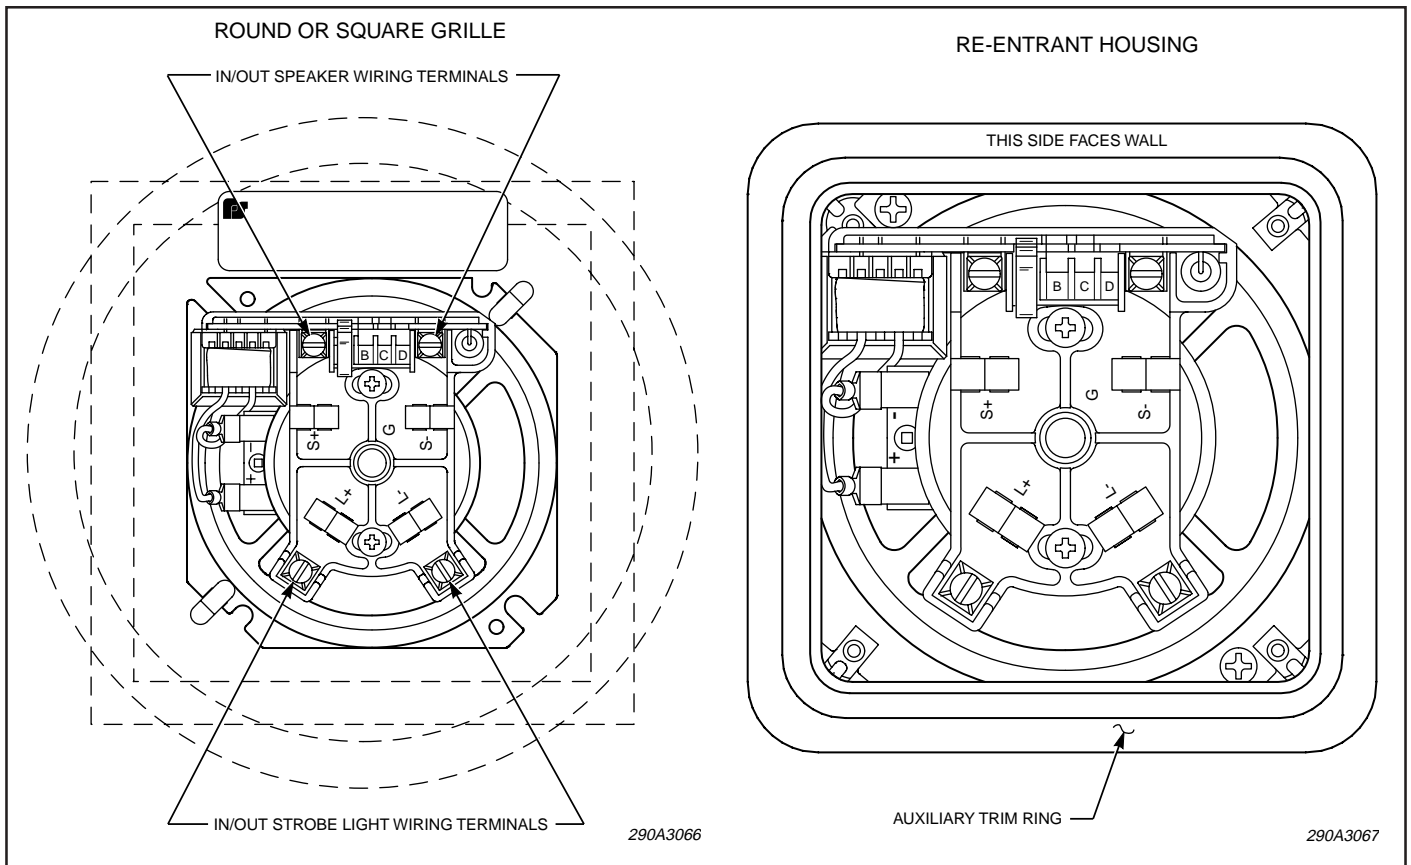
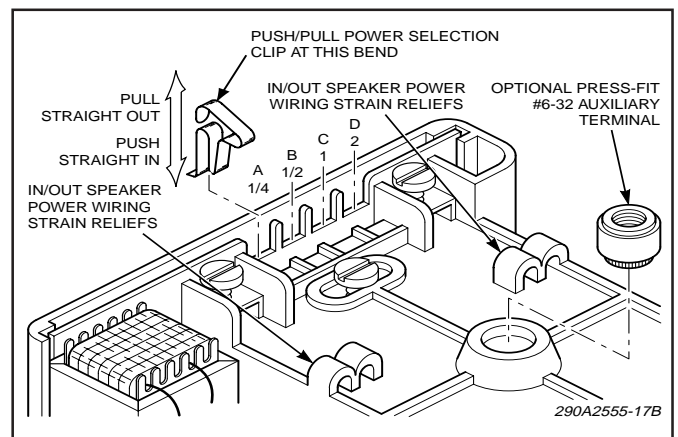
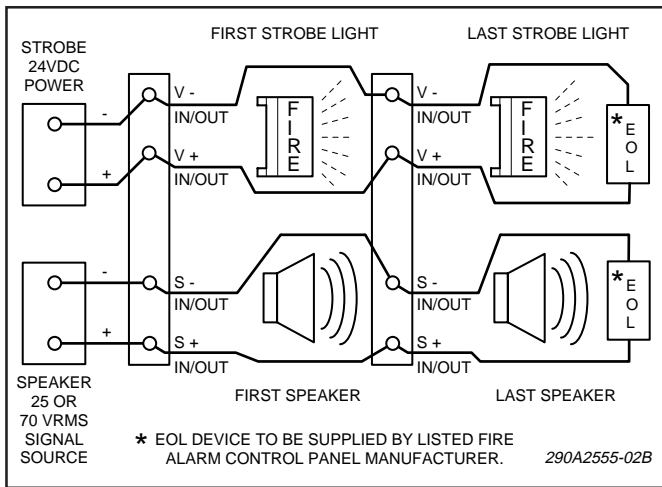

Figure 1. Rear View of Model SPL Grill and Re-Entrant Speakers.
Figure 2. Power Adjustment.
Figure 3. Model SPL Wiring.
The speaker or speaker/strobe model is supplied with wiring terminals and strain reliefs for speaker and optional strobe in/out wiring (see figure 1). An optional auxiliary terminal can be supplied on the speaker.
See figures 1 and 2. Multiple power settings are achieved via an adjustable contact clip. The unit is set at the factory to the 1/4 watt position. To change the power (volume), carefully pull the power selector clip straight out of the slot and push it straight into the desired power setting slot (1/4, 1/2, 1, or 2-watt) as indicated and push down until the clip is fully engaged. See figure 2 for the proper location to pull and push on the clip.
Strip 3/8" of insulation from all wiring leads. Attach the appropriate wires to the corresponding terminals on the back of the speaker as shown in figures 1, 2, and 3. (Speaker wires are connected to terminals "S+" and "S-" and optional strobe wires are connected to terminals "L+" and "L-".) Tighten the screws to ensure that the wires are firmly held in place.
To select the desired wattage, refer to paragraph B. and see figure 2. Using the removable contact clip, set the desired output level (1/4, 1/2, 1, or 2-watt).
An optional #6-32 auxiliary terminal may be added by carefully pressing the knurled terminal into the insulator housing's center raised boss until it is flush with the top of the boss as shown in figure 2.
When the speaker is supplied with a factory installed strobe, two additional terminals are located on the back of the speaker as shown in figure 1. See figures 3 and 4. Connect the appropriate wires to the corresponding strobe terminals. Note that the wires are held in place by the terminal's captivating nut. Tighten the screws and ensure that the wires are firmly held in place.
backbox with or without a surface mount trim plate (TP or TPSF). Re-entrant housings will also fit an FBL backbox with a TP flush mount trim plate. An auxiliary trim ring is also supplied (see figure 1) for mounting arrangements.
1. After installation is complete, be sure to test the system to verify that each speaker and optional strobe light operates satisfactorily. If it is found that the sound level is too low for its location, a higher wattage tap may be selected. Carefully remove the speaker and move the contact clip to a higher wattage tap (see Figure 2). Reinstall the speaker and retest.